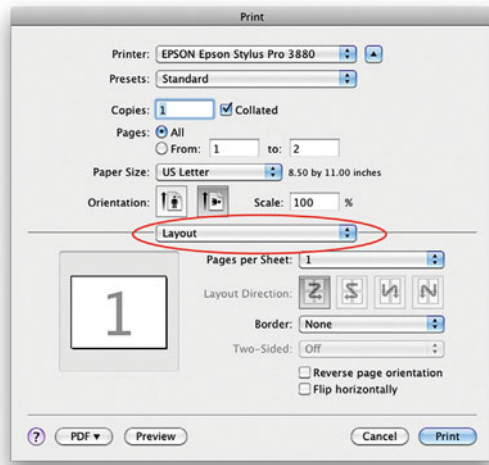

FIGURE 8.6 Epson 3880 printer driver, as launched from X-Rite i1 Profiler.
1. *Launch the print driver* from the printer profiling software or any other software. Once there, select the printer you are profiling, as seen in Figure 8.6.